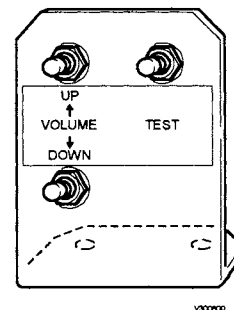

**Figure 6: Auxiliary Cable Harness**
22. Connect the player 1 and the player 2 kick buttons to the auxiliary cable harness as shown in figure 6. Make the connections according to the chart in table 2.